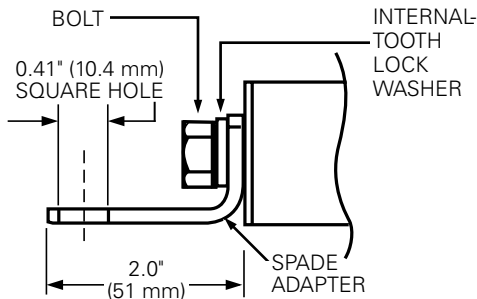

Figure 10. Spade terminal.
2. Place the internal-tooth lock washer onto the bolt and insert the bolt through the spade adapter hole into the tapped center hole of the fuse and torque the bolt to 10-15 ft-lbs. (Figure 10.)